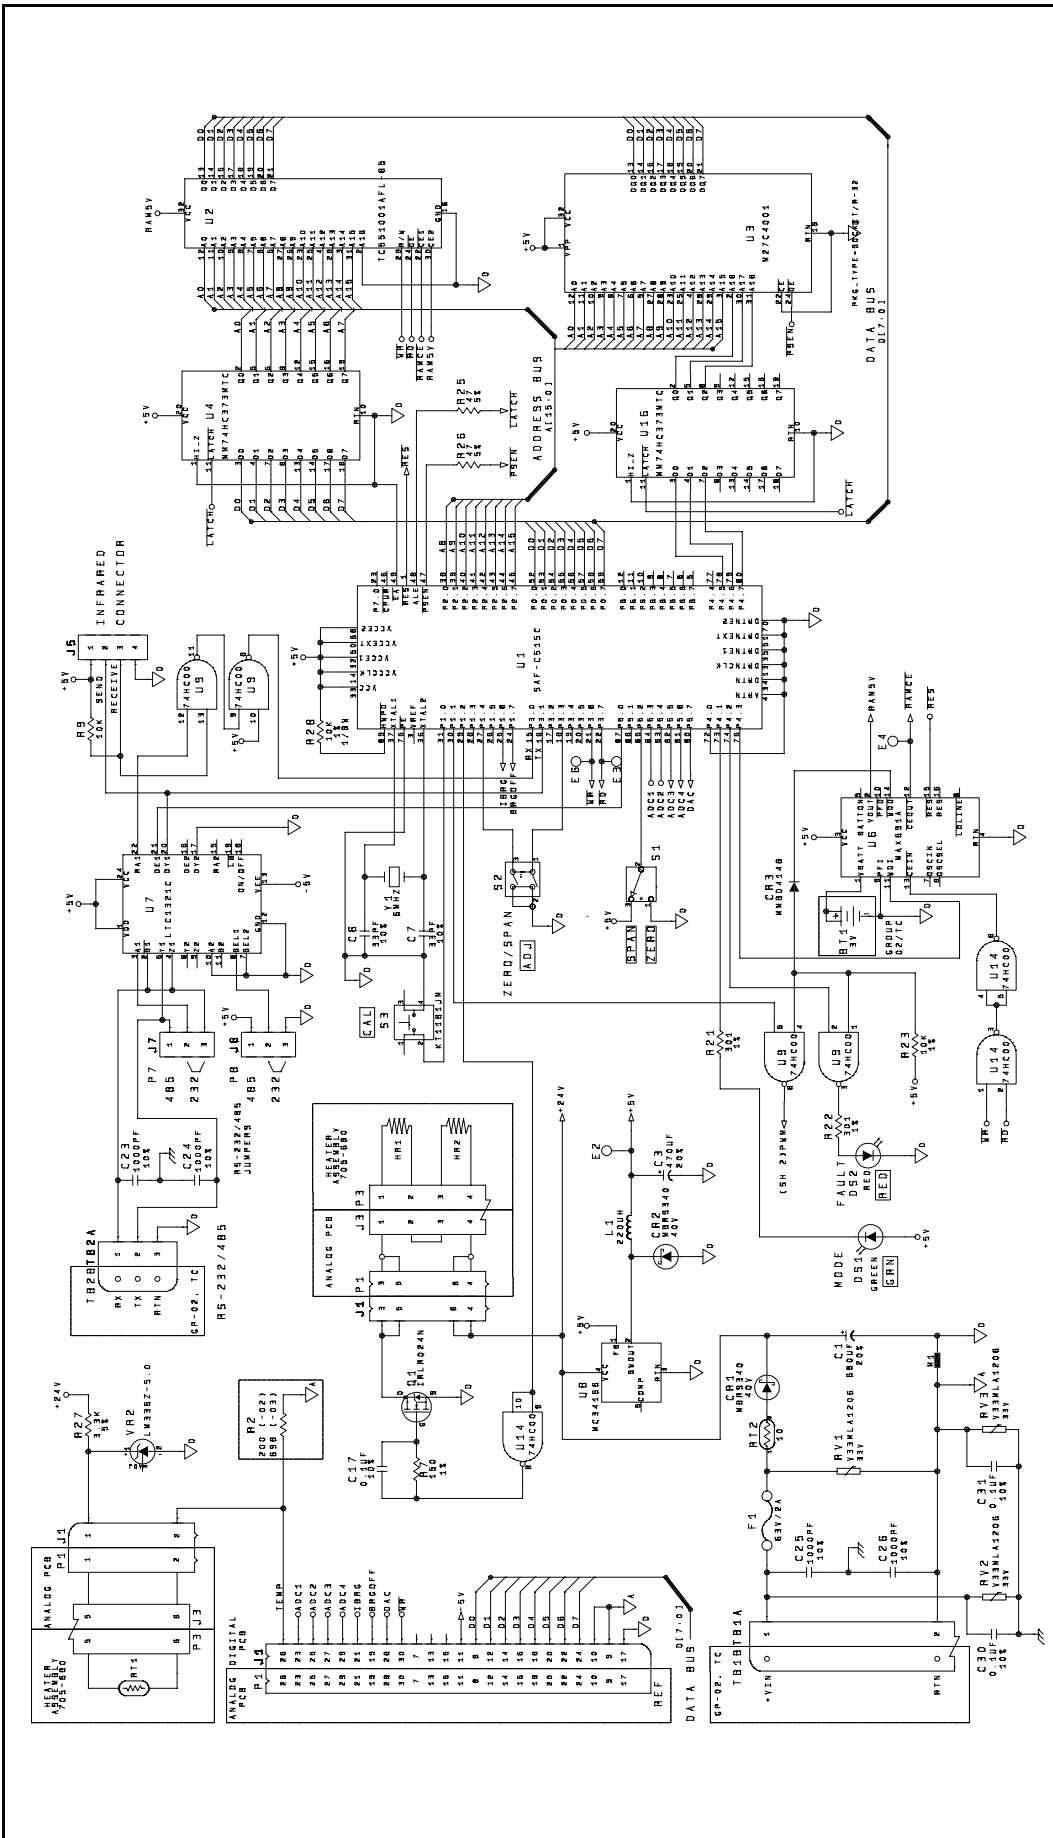

Figure 65: Digital PCB schematic (ref. 700-1316, Rev. H, SH1)
- *Figure 65: Digital PCB schematic (ref. 700-1316, Rev. H, SH1) on page 49*